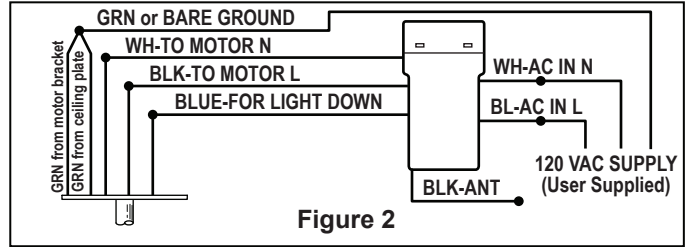

Figure 2
It is critical that the outlet box and the screws are securely anchored to the building structure and capable of withstanding a load of at least 50 lbs. Failure to verify that the screws are properly installed could result in the fan falling. (Figure 2)
1. Securely attach the ceiling junction box **acceptable for ceiling support** into the building structure. (Figure 2)
- Connect wires as indicated: (Figure 2)
2. Carefully secure the housing assembly onto the mounting slots on ceiling bracket with the upward-clockwise, quarter-turn twist (Figure 2).
2. Securely fasten blades with pan-head screws. Do not over-tighten. (Figure 2)
2. Securely attach Support Light Kit Assembly to the Adapter Plate by tightening three screws provided with the fan. (Figure 2)
Be sure to line up the curved slotted holes located on the Downlight Socket Plate. (Figures 2)